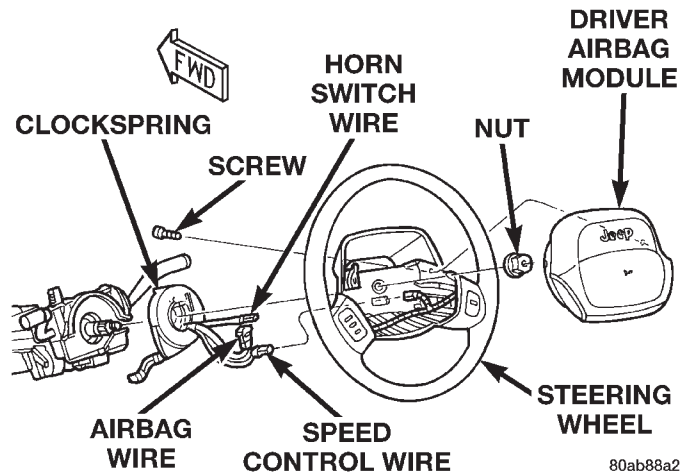

Fig. 4 Driver Side Airbag Module Remove/Install
(1) Disconnect and isolate the battery negative cable. If the airbag module has not been deployed, wait two minutes for the system capacitor to discharge before further service.
(2) From the underside of the steering wheel, remove the two screws that secure the driver side airbag module to the steering wheel (Fig. 4).
(3) Pull the airbag module away from the steering wheel far enough to access the wire harness connectors on the back of the airbag module.